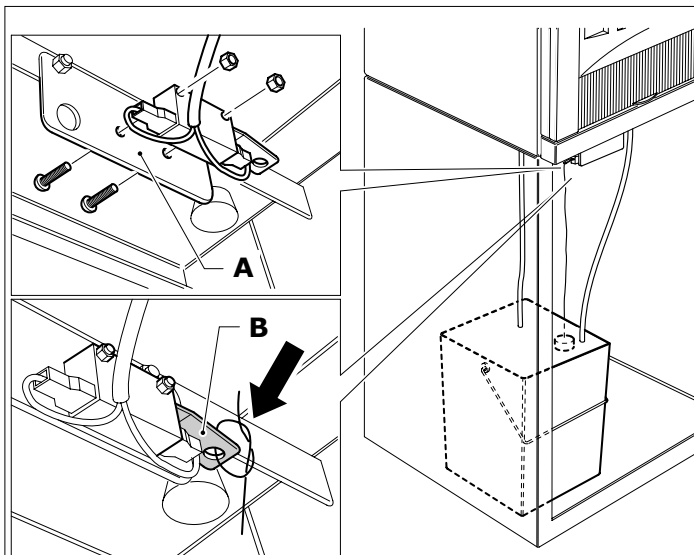
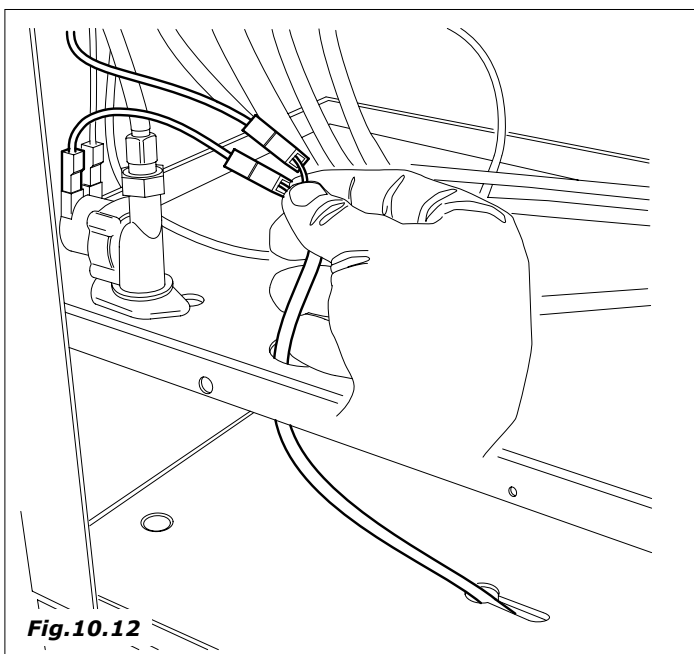

Fig.10.11
Fig.10.12
- For those distributors connected to the mains water supply, assembly the microswitch on the square indicated (*Fig. 10-11 pos. A*) connect it in series, using the wiring harness supplied, to the water entry solenoid valve (*Fig. 10.12*)
- Knot the nylon string of the float to the micro lever (*Fig.10.11 - pos. B*) ensuring that the float is below the maximum level of the bucket .